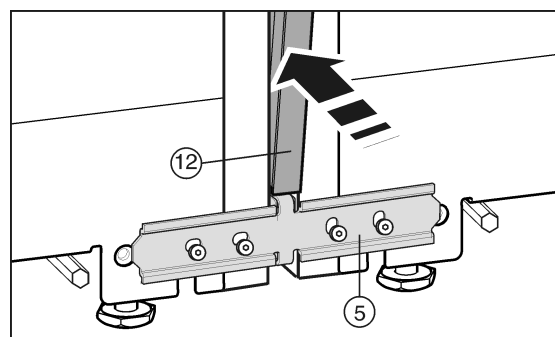

Fig. 26
Before inserting the trim *Fig. 26 (12)* squeeze the two fillets together along the entire length. The trim can now be inserted more easily into the gap. When pressing in the trim, use a soft cloth to prevent dents on the surface of the trim. Press the trim carefully and evenly into the gap to achieve the best possible fit.
- ▶ On the front press the long trim *Fig. 26 (12)* into the vertical gap. Ensure that the trim rests on the connecting panel *Fig. 26 (5)*.